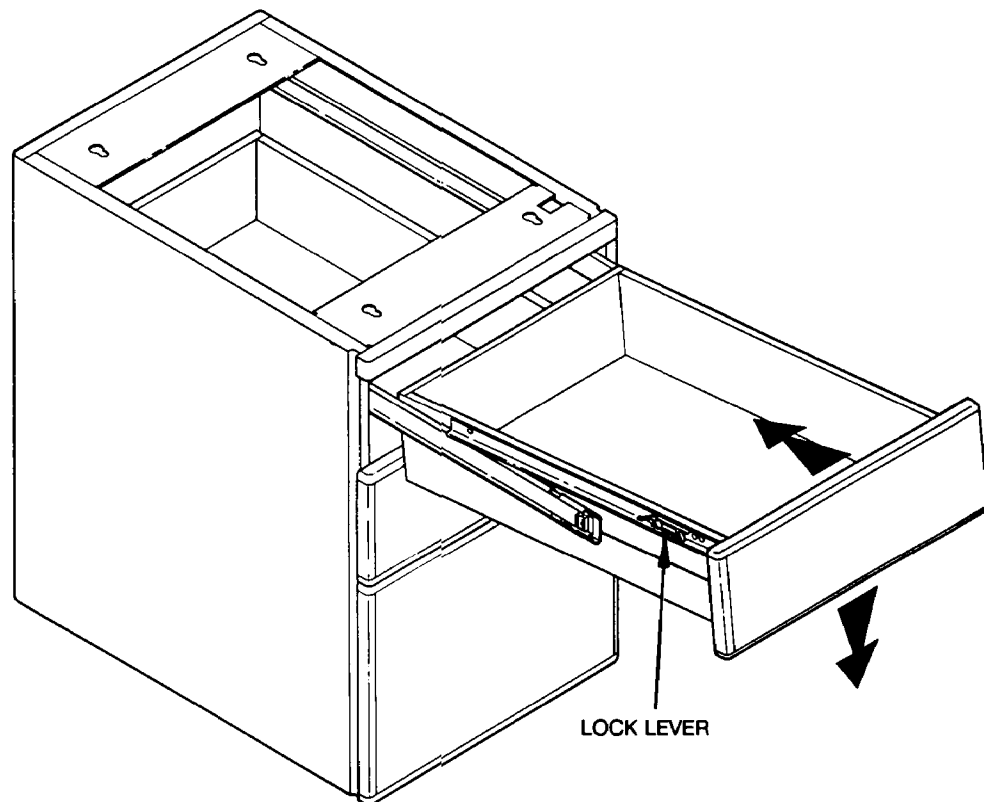

FIG. 3
5. Replace drawer(s) by placing drawer track on housing track. Slide drawer to rear of housing track until track rests against stop and lock levers snap into place (Fig. 3).